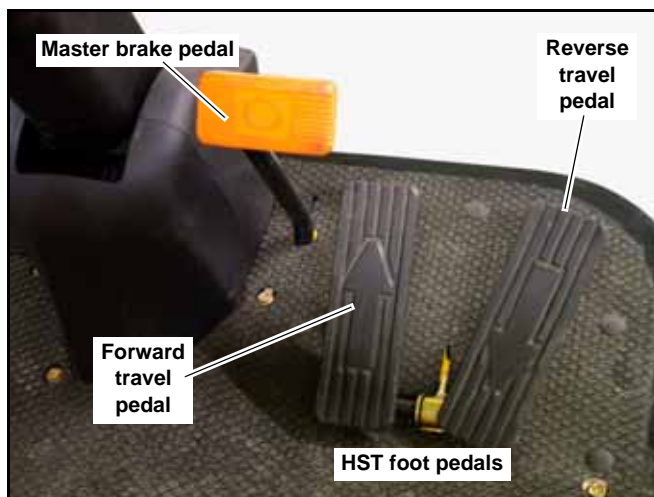

Figure 3-6
- D. **Hydrostatic transmission (HST) foot pedals (Figure 3-6)** — The ground speed of the unit is continuously variable from zero to full rated speed in each range. The ground speed is controlled by these pedals. Depress the forward travel pedal to progressively increase forward speed. For reverse travel, depress the reverse travel pedal. **NOTE:** These pedals must be in neutral (not depressed) to start the engine.
- B. **Master brake pedal (Figure 3-6)** — Depress the master brake pedal to stop the unit.